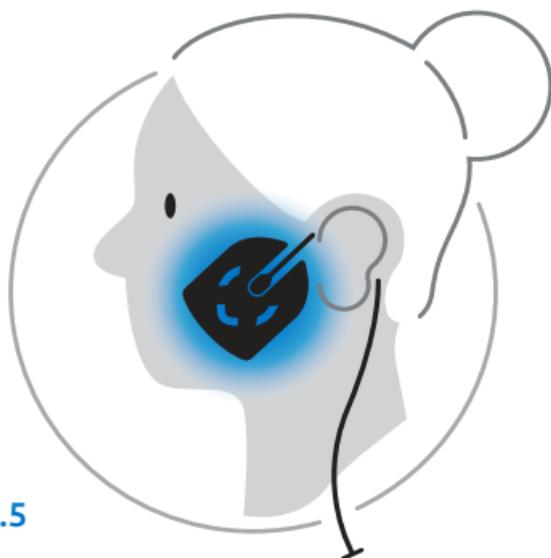

fig.5
- 2 Place the actuator patch next to the cheekbone where the pain is in the maxillary nerve (V^2) or next to the lower jawbone when the pain is in the mandibular nerve (V^3). (fig.5)